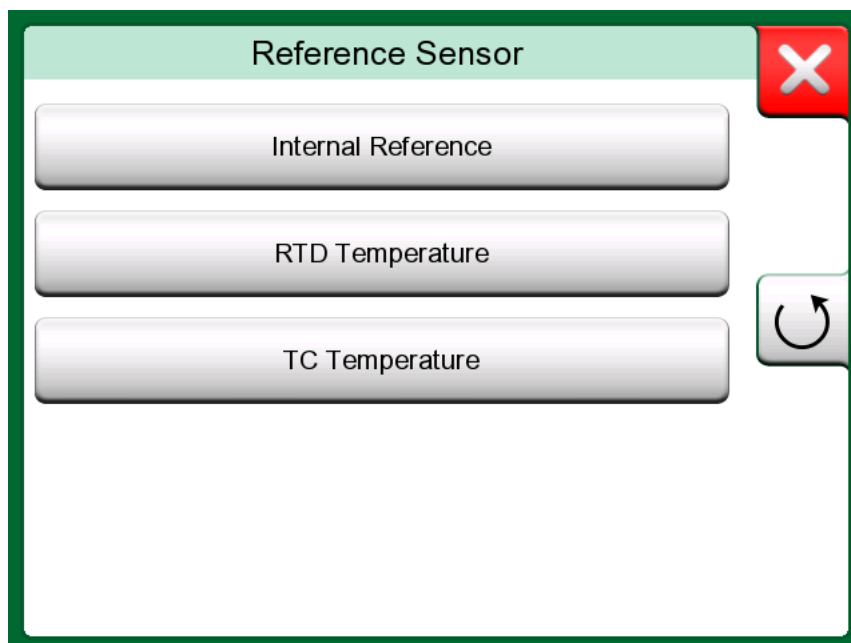

Figure 65: Documenting Calibrator, reference sensor selection dialog
- calibrator generates the temperature with internal Temperature Block or controls the temperature generation by an external device. This method can be used with internal or external reference sensor (see figure Figure 65: Documenting Calibrator, reference sensor selection dialog);